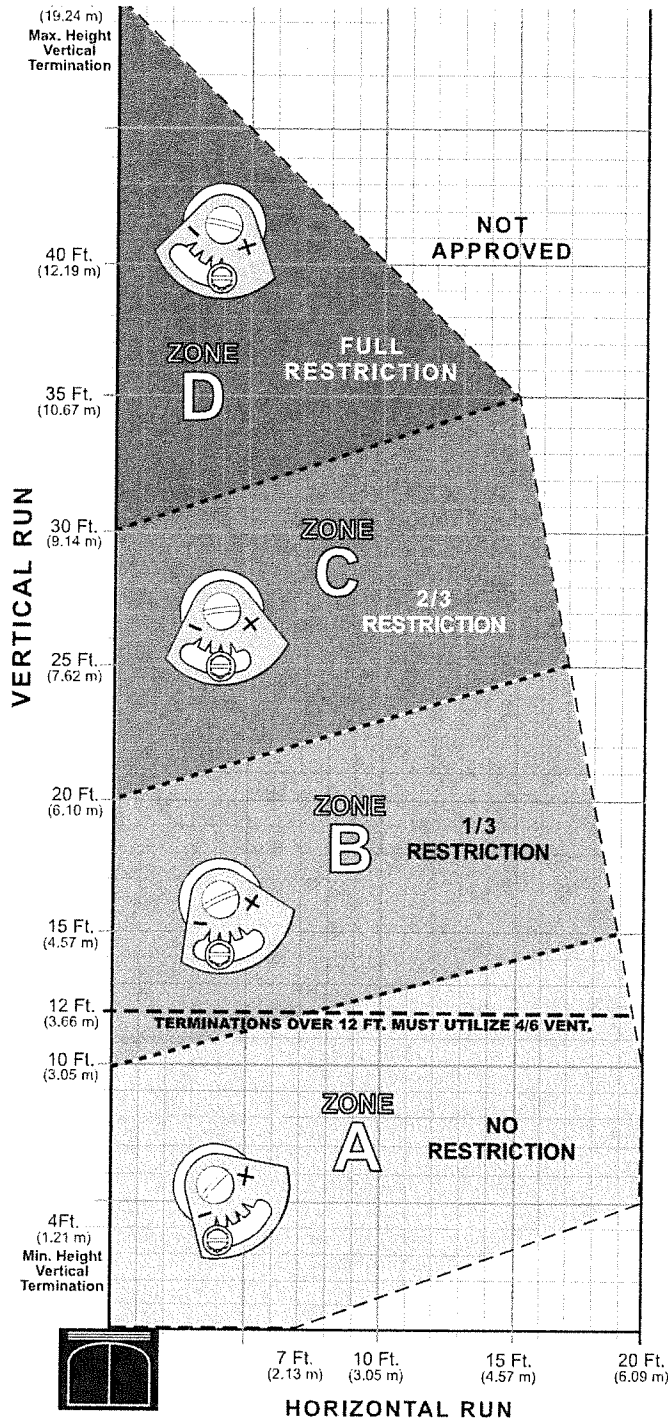

Figure 5.5
- **The termination must fall within any of the shaded areas in the termination diagram, fig. 5.5 on page 16.**
The Atra GZ 650 DV features an exhaust adjustment control to accommodate a variety of conditions that result from variables inherent in the vent configuration and environment. The control mechanism is a butterfly valve located in the exhaust outlet at the top of the firebox. The restriction setting can be accessed from outside the firebox to allow the burner and pilot flame characteristics to be "dialed-in" under operation. See fig. 5-5.
1. Use a 12" straight blade screwdriver to loosen the locking screw and turn the adjustment screw on the restrictor pivot plate to the appropriate indicator point as specified in the vent window diagram, fig. 5-5.